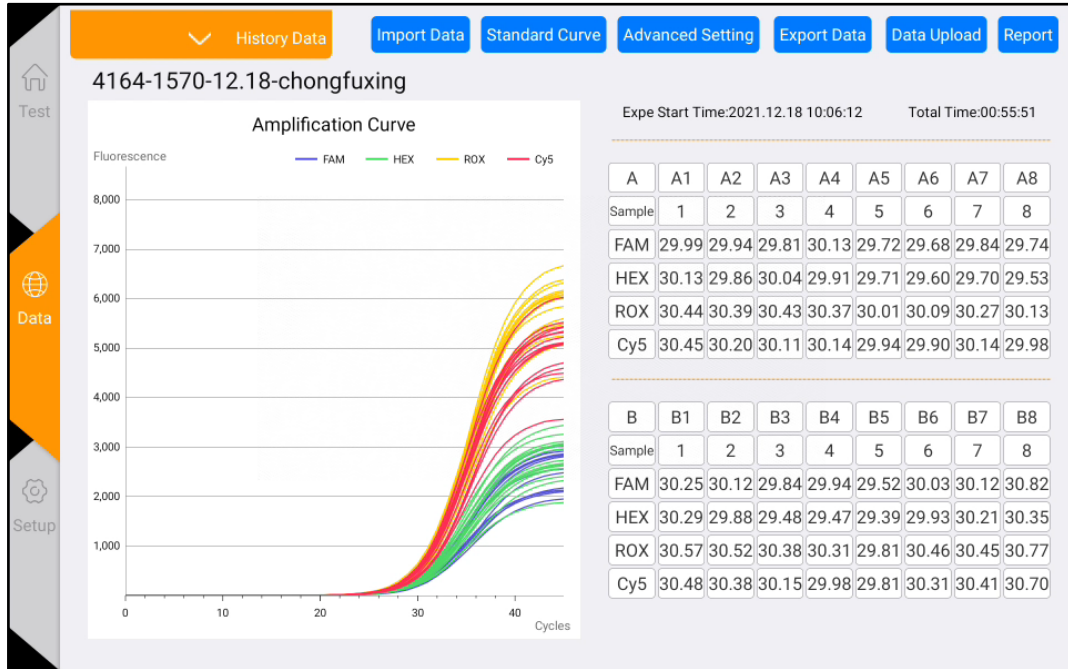

Figure 4-5-1 Result analysis interface
- 1) Click the "Date" button on the main page to enter the "Result Analysis" page, as shown in Figure 4-5-1.